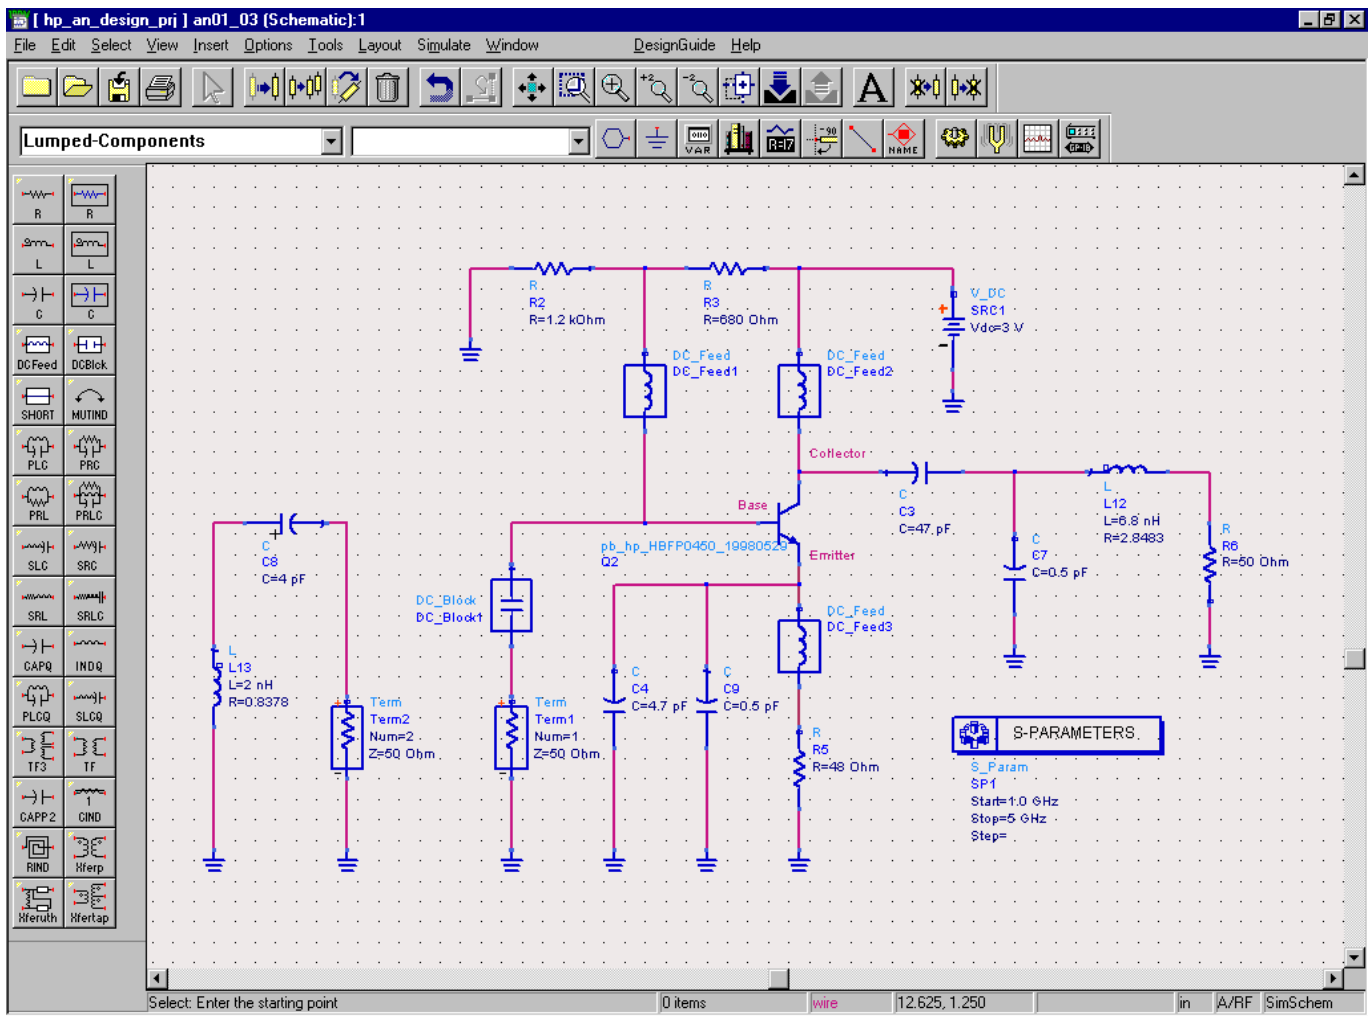
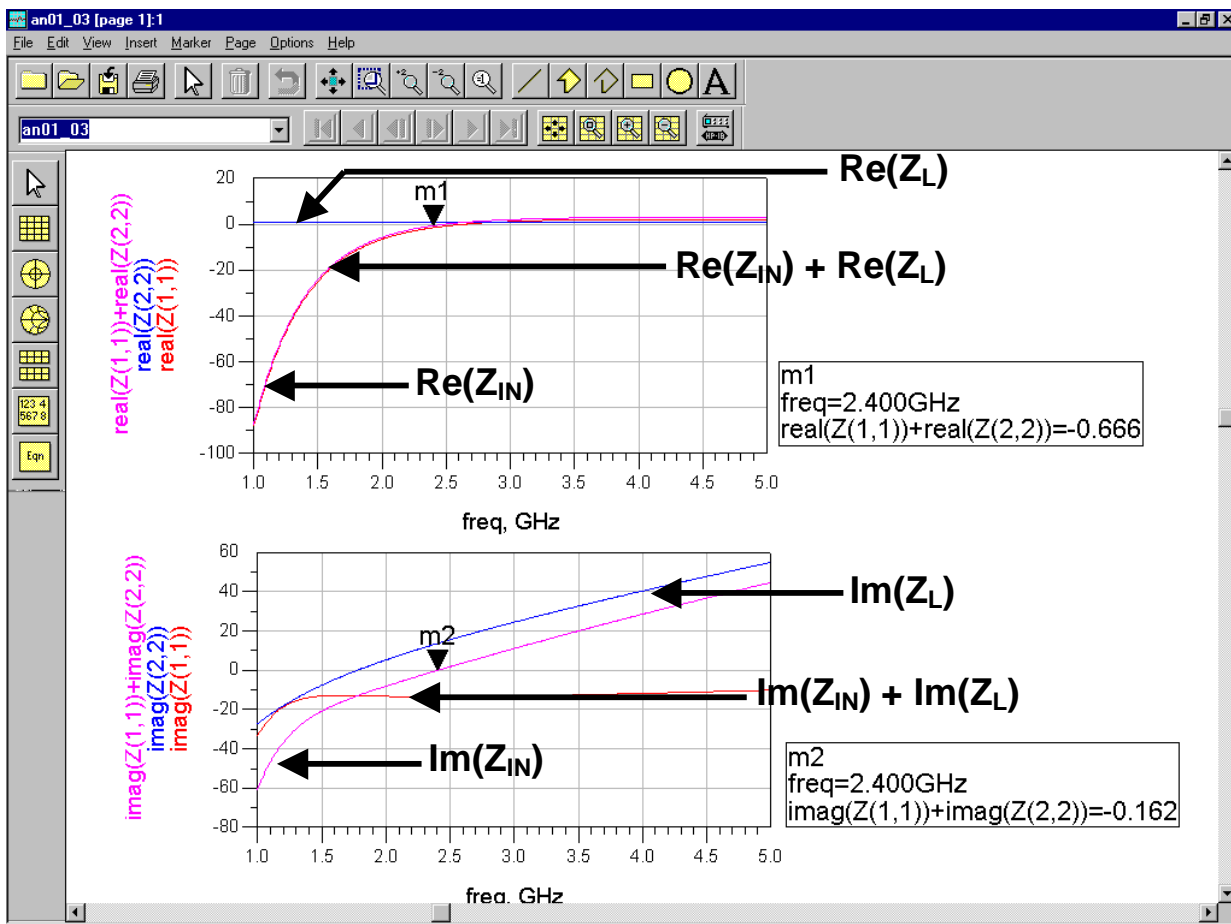
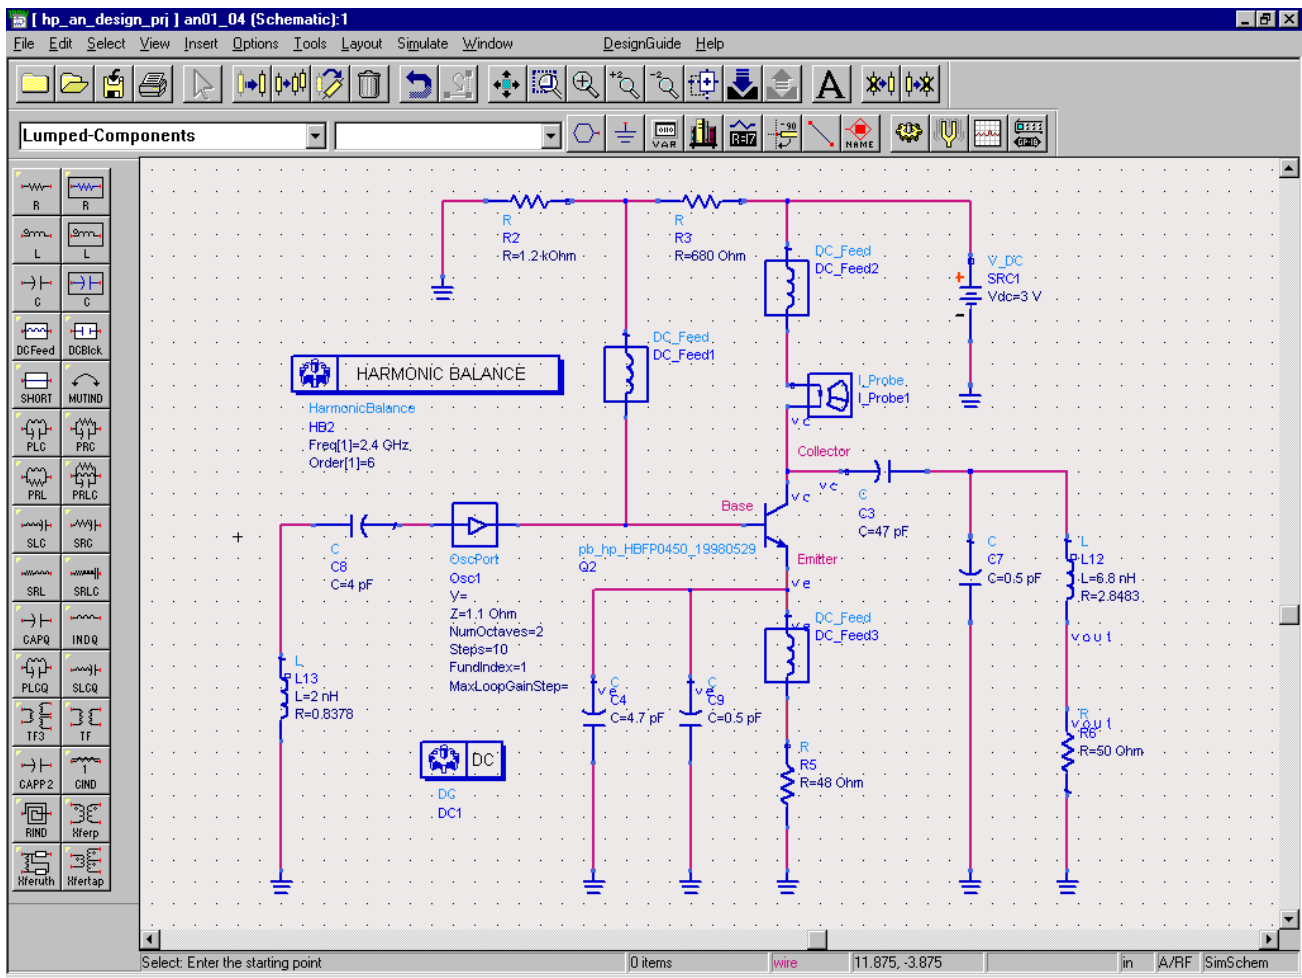

Fig. 7 Negative resistance and resonator simulation circuit
Fig. 8 Negative resistance and resonator simulation result
Fig. 9 2.4GHz oscillator circuit
After designed the biasing circuit, the transistor will be constructed as a common emitter capacitive feedback circuit (Fig. 7). This will produce a negative resistance in order to cancel the lost from the resonator. In this simulation, the S_param simulator in ADS is used to get the input impedance of the circuit. From the simulation result, it shows that the overall resistance of the circuit is zero near 2.4GHz (Fig. 8) and it satisfies equation (2). The reactance of the active device is capacitive at this frequency. It means that an inductive resonant tank is needed in this frequency to achieve the 2.4GHz oscillator design.
Now, an inductive resonator is needed in order to make the circuit oscillate. In the resonator, a 4pF capacitor is used to increase the oscillation frequency of the circuit due to the limited value of the lumped inductor. It acts as a dc-block of the resonator also (Fig. 7). The Q-factor of the inductor is assumed to be 36. It will give a lost in the form of a resistor of 0.8378Ω. It is included in the simulation in order to give a more accurate simulation result. The circuit is simulated by the S_param in ADS again. From the simulation result, it shows that the net reactance equals to zero near 2.4GHz (Fig. 8). This satisfies equation (3).
By combining the negative resistance and the resonator, the performance of the oscillator can be evaluated now. By modifying the circuit in Fig. 7, an oscillator circuit is obtained (Fig. 9). Here, the HB simulator is used. This simulator can simulate the fundamental frequency, output power and phase noise performance of the oscillator. Besides, the DC simulator will be used again to have a whole evaluation of the circuit.